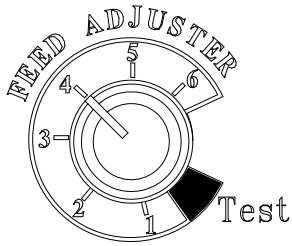
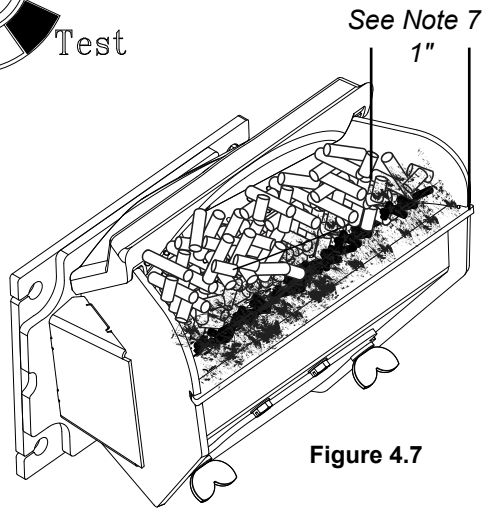

Figure 4.6
Figure 4.7
4. Adjust Feed Rate. If this is your first fire or you are trying different pellets, set the feed adjuster to #4, Figure 4.6 This is a conservative number and will probably need to be increased. After you know a feed rate setting that works well, use that setting. Remember, if your feed rate is too high you may waste fuel.
7. Setting the feed adjuster # for maximum burn: With the unit burning in "AUTO", turn to "Stove Mode" and put the fan on "H". Set the Temperature Dial to #7. Allow the unit to burn for about 30 minutes and check ash on front of burn pot. Figure 4.7. If the ash line is larger than 1", turn the feed adjuster from #4 to #5. Allow another 30 minutes of burn time and check again. If, at #6 setting, a 1" or less ash bed is not obtainable, it is not a problem. The 1" ash bed is only at maximum burn rate and during normal operation, the ash bed will be larger.
High output is determined by the feed rate setting. This setting, generally on #4, can be increased if higher burn rates are necessary (Figure 4.6). The unit's maximum burn rate should not create less than 1" of ash on the burn pot front edge (Figure 4.7). Overfeeding is not a safety concern, but fuel may be wasted if unburned pellets fall into the ash pan.
This allows for automatic ignition upon start-up only. The unit can then be set at any desired setting. The heat output and fuel consumption will remain constant regardless of room temperature. The unit's maximum feed rate should not create less than 1" of ash on the burn pot front edge. Figure 4.7.